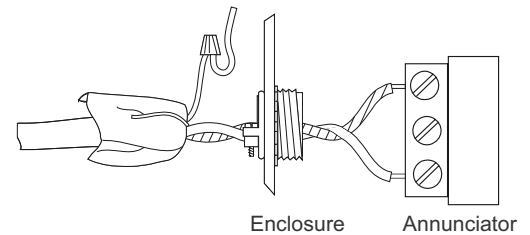

Figure 2.4 Terminating the Shield
3. Connect AIO annunciator wiring. Pull all annunciator wiring into the enclosure. Terminate the shield as shown in Figure 2.4 on page 11.